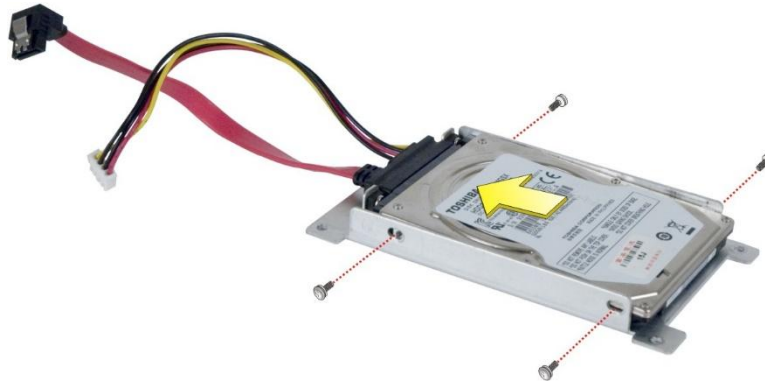

Figure 3-3: HDD Retention Screws
**Step 3:** Secure the hard drive to the bracket. Secure the hard drive to the bracket with four retention screws (**Figure 3-3: HDD Retention Screws**).